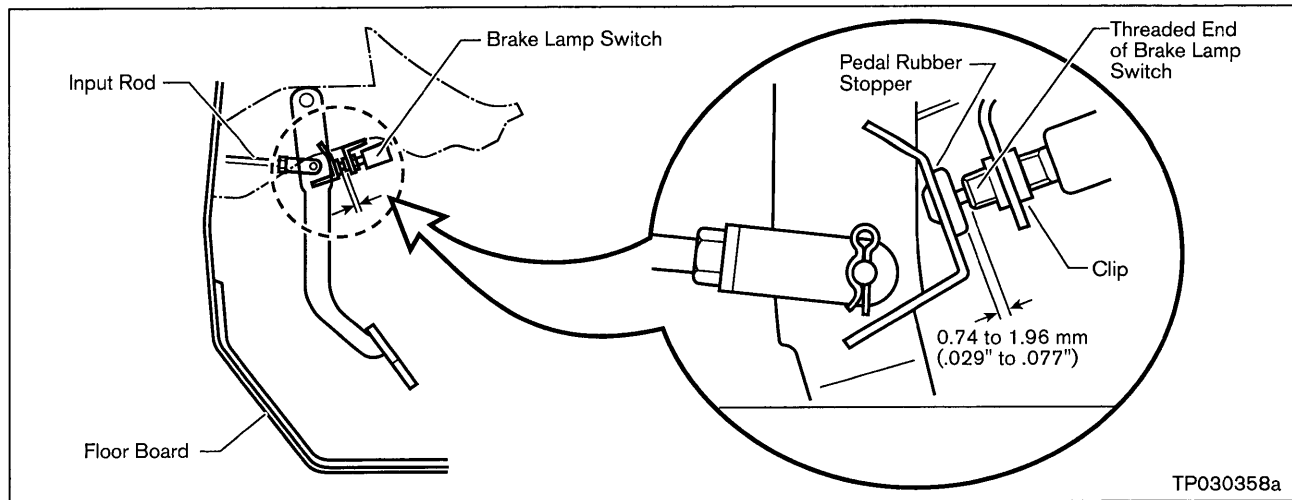

Figure 16
5. Use a "Feeler Gauge" (or other suitable tool) to check the clearance between the Pedal Rubber Stopper and the threaded end of the Brake Lamp Switch (see Figure 16). Make sure it is within the clearance specification shown below.